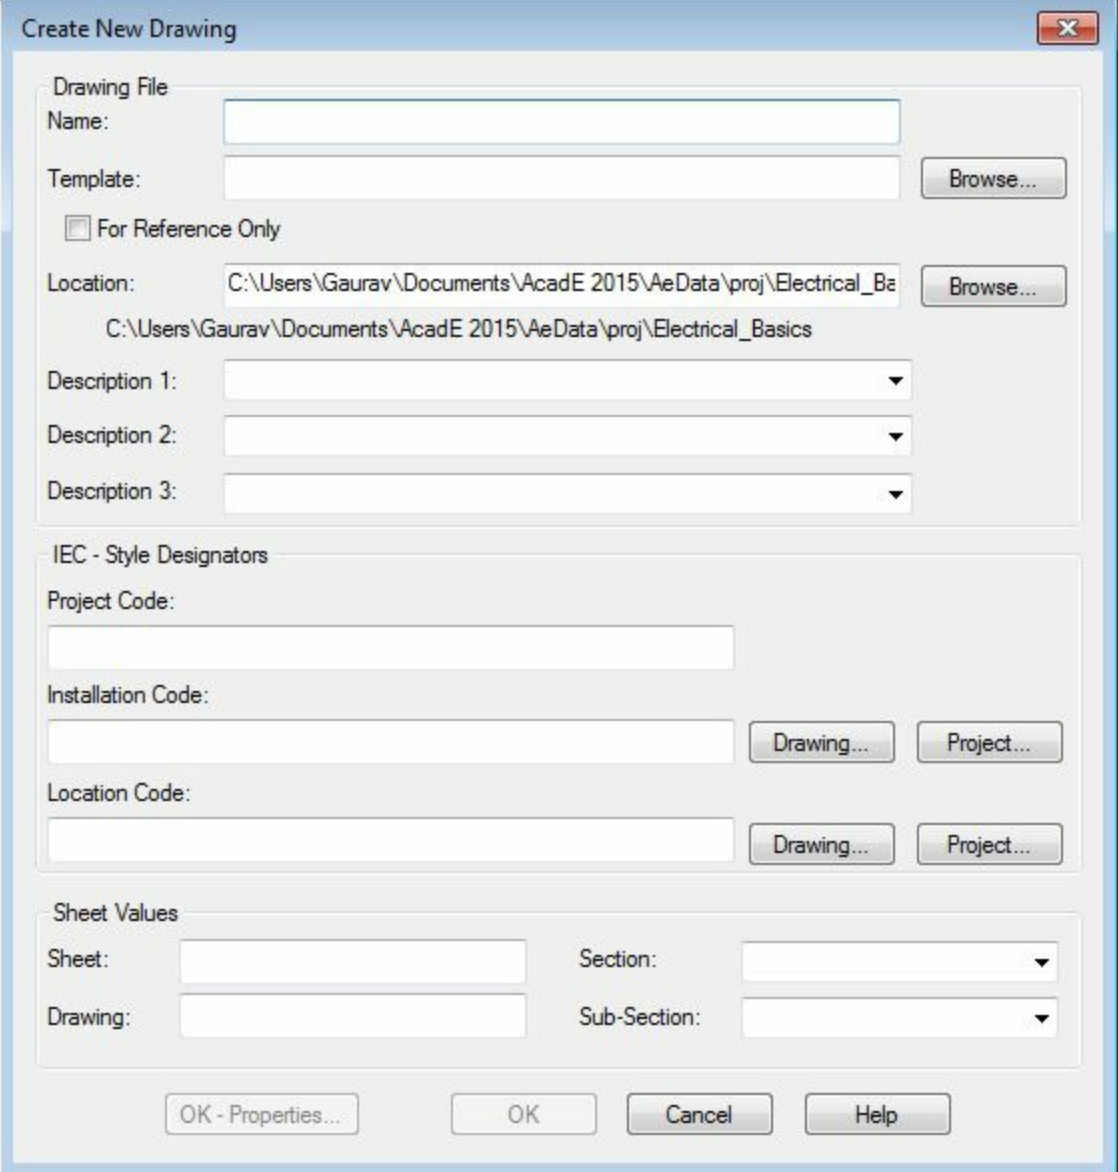

Figure-23. Create New Drawing dialog box
- Click on the **New Drawing** button  from the **Project Manager**. The **Create New Drawing** dialog box will be displayed as shown in Figure-23.